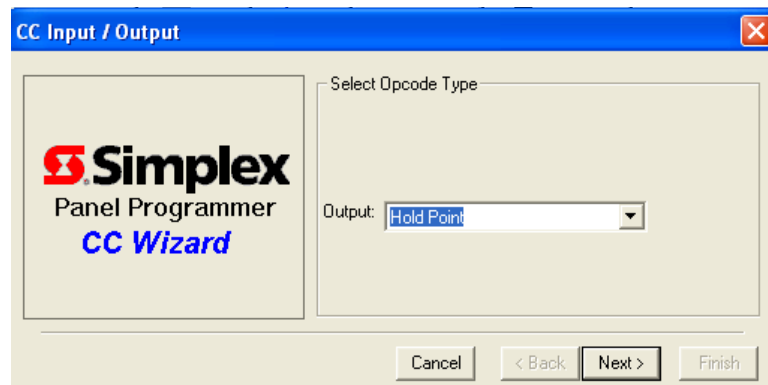

Figure 10-7. Select Output Opcode Dialog
2. Click on the **Add** button. The dialog shown in Figure 10-7 appears.